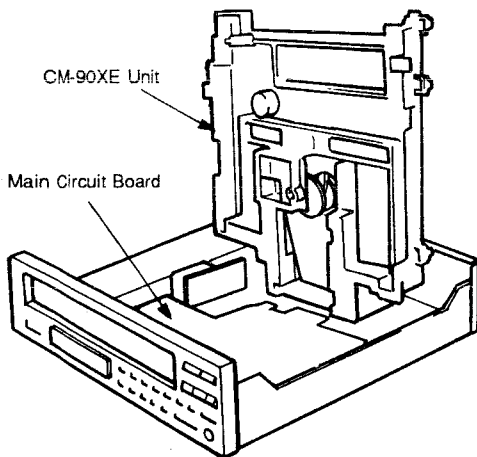

Fig.10
10. Place the CM-90XE Unit upright and fix it with gummed tape. (Fig. 10)